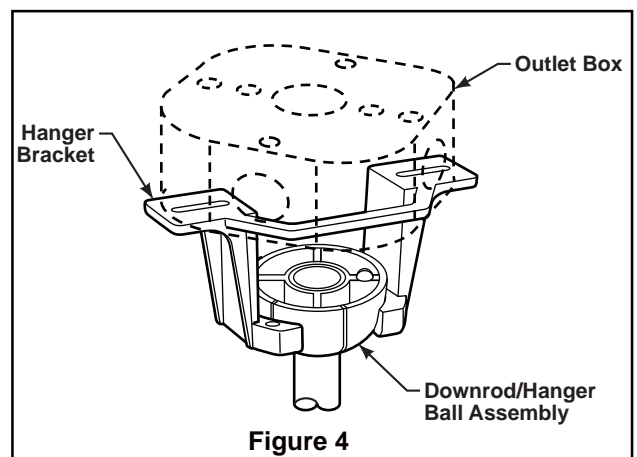

Figure 4
- 4. Thread downrod into the downrod support on top of the motor. Install the clevis pin by aligning the holes in the downrod support with holes in the downrod. Secure clevis pin with hairpin clip. Tighten the two set screws with nuts in the downrod support. (Figure 4)
2. Carefully lift the fan and seat the downrod/hanger ball assembly on the hanger bracket that was just attached to the outlet box. Be sure the groove in the ball is lined up with tab on the hanger bracket. (Figure 4)